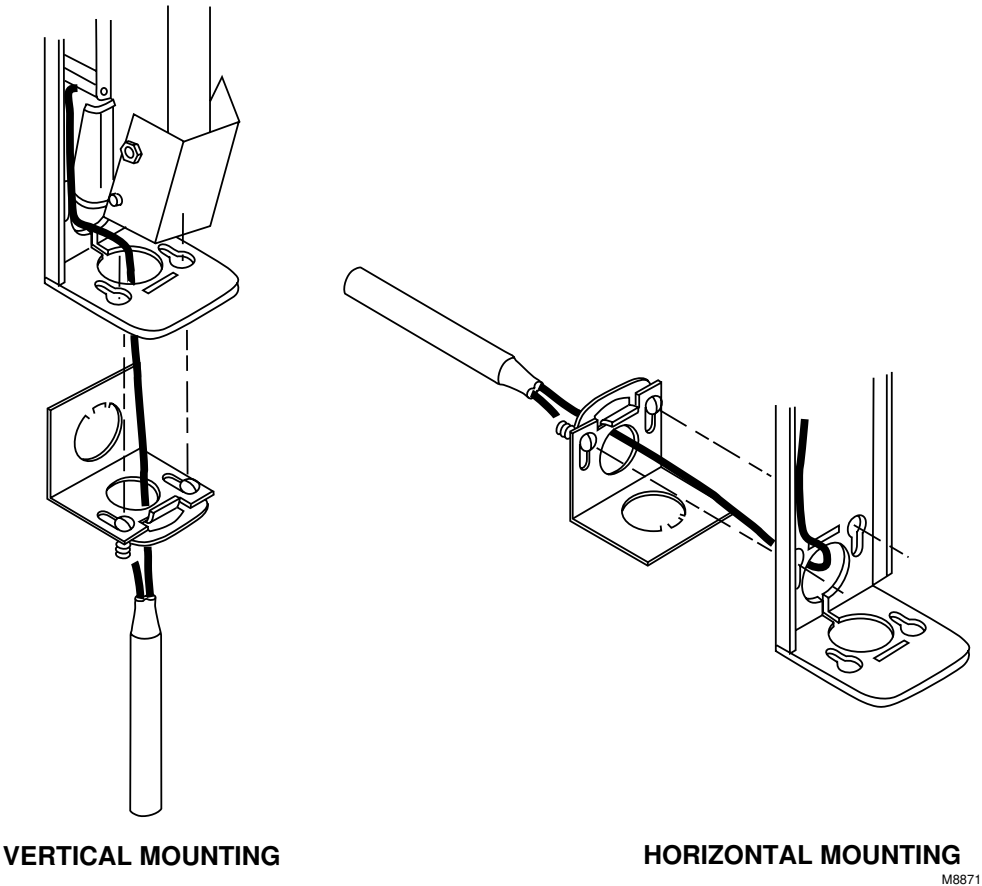

Fig. 2. Mounting bracket placement for vertical or horizontal mounting.
- 7. Determine whether vertical or horizontal mounting method is desired; see Fig. 2 for mounting bracket placement.